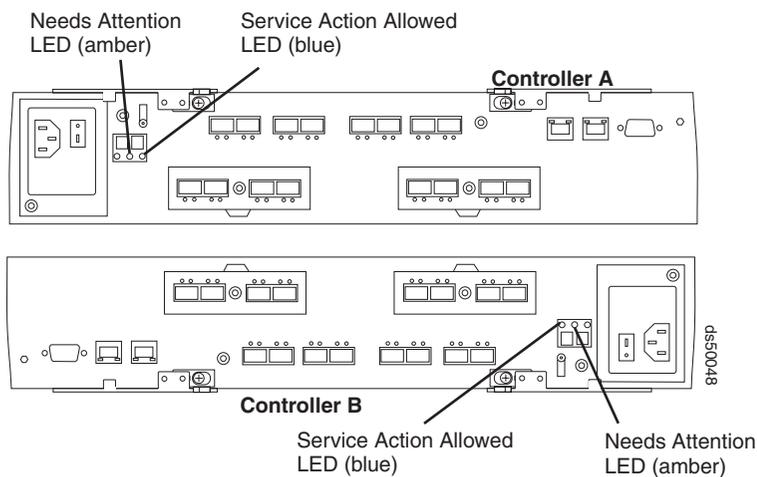

Figure 1. RAID controller Needs Attention and Service Action Allowed LEDs
- Replacing a failed controller, locate the failed controller by checking the Needs Attention status LEDs on the controllers in the storage subsystem (see Figure 1). Skip to step 4.
Figure 1 shows the location of the Service Action Allowed LED on the back of a controller.
- Check the LEDs on the controller to verify that the controller is fully operational. See Figure 1 on page 3.